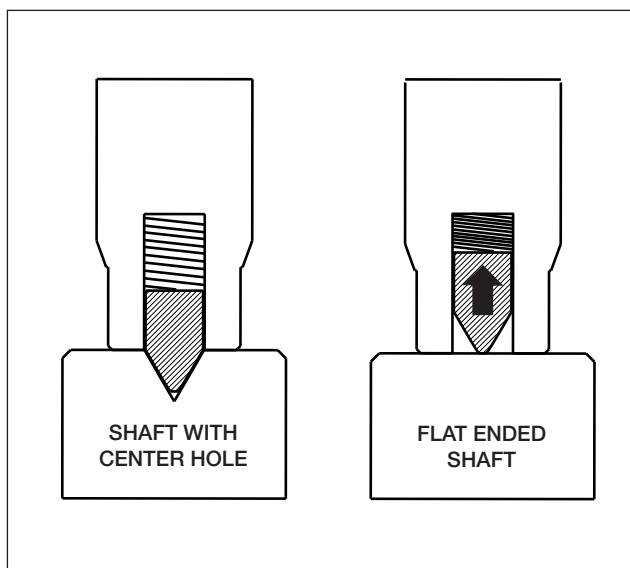

Figure 4, Retractable Point
- Model SGM10 and SGM20 feature a special adjusting rod which contains a spring-loaded retractable point. The point engages if the shaft end has a drilled center hole or depression. It automatically retracts if the shaft end is flat. See Figure 4. No point protector is required for these models.